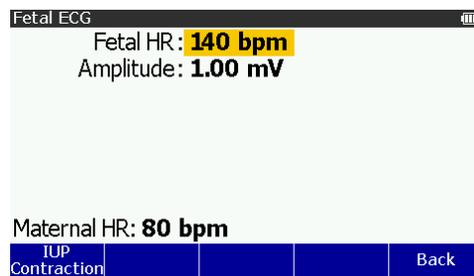

Figure 12. Fetal ECG Screen
2. Push **▲**, **▼**, **▶**, or **◀** to highlight **Fetal Simulation** and then push **ENTER** to show the **Fetal ECG** screen in the display. See Figure 12.